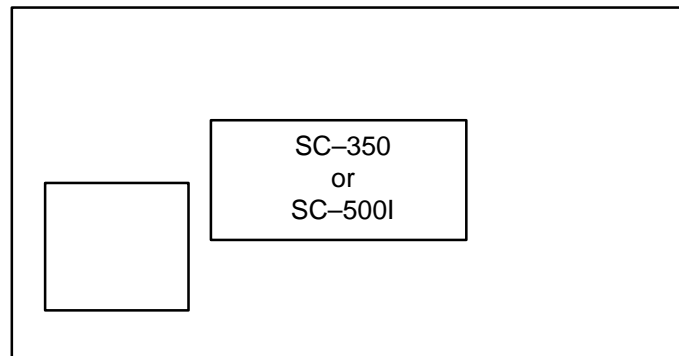

Figure 1: Location of the selcall decoder PCB on the motherboard
- Locate the selcall decoder PCB, which is positioned at the centre of the motherboard, and remove the 3 retaining screws securing it to the motherboard (see Figure 1).